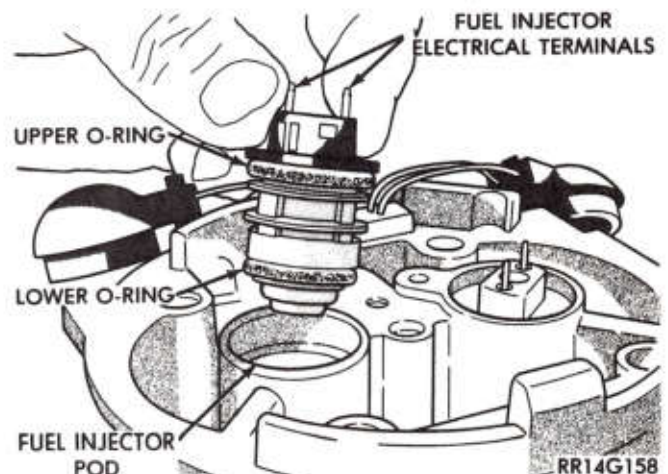

Fig. 9—Servicing Fuel Injector
- (7) Make sure the injector lower O-ring has been removed from the pod (Fig. 9).
- (1) Install lower O-ring or injector. O-ring should butt against plastic filter assembly. Inspect O-ring for cuts or tears and replace if necessary. (Fig. 9).